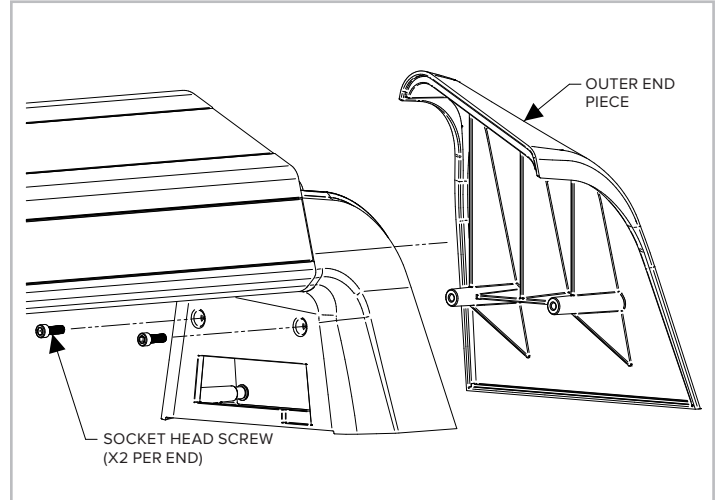

Figure 5: The outer end piece comes off with the removal of two socket head screws.
2. Remove the 4 socket head screws using the supplied 9/64" Allen wrench and the outer end pieces. See **Figure 5**.